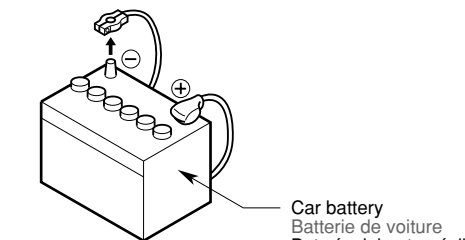

Figure 1 / Figure 1 / Figura 1
- 3. Be sure to disconnect the battery "⊖" terminal before starting. This is to prevent short circuits during installation (Figure 1).
- 3. S'assurer de débrancher la borne "⊖" de la batterie avant de commencer. Cela évitera les court-circuits pendant l'installation (Figure 1).